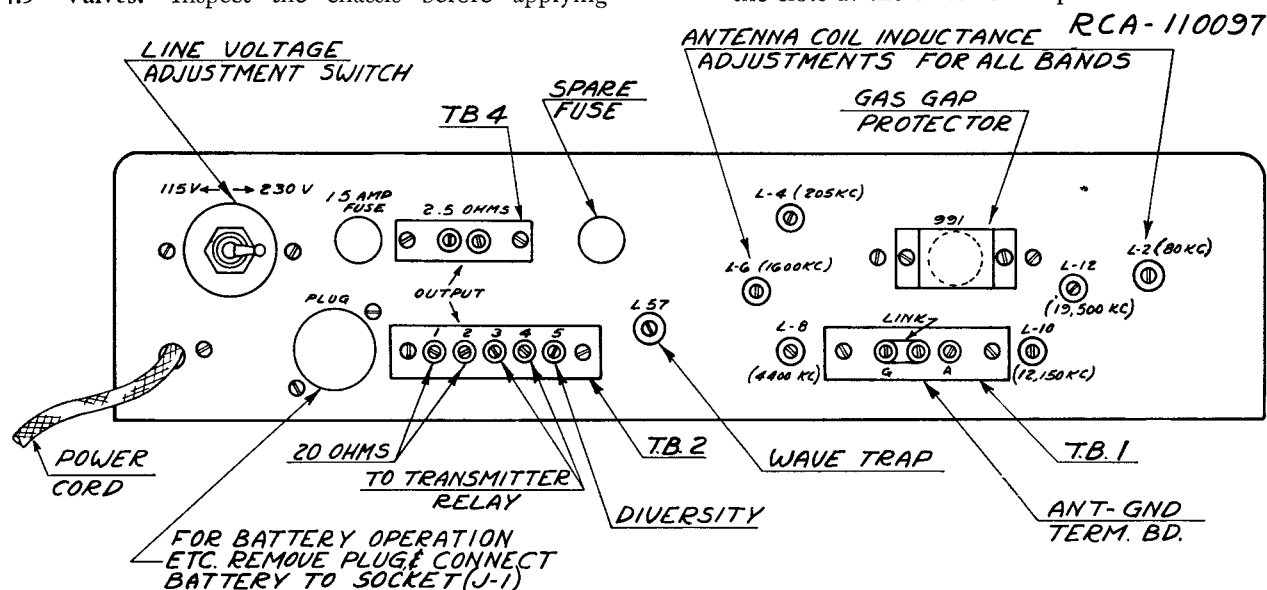

Figure 3.—General Purpose Communications Receiver—Rear Apron
- 2.2 **Input Coupling:—**The antenna coupling system is designed to provide optimum coupling from a 200 ohm transmission line, but equivalent performance is realized with a straight line antenna (see Section 4.4) with a conventional lead-in wire. The first tuned circuit is provided with a trimmer condenser adjustable from the front panel. This insures the proper tuning of this circuit with any antenna system. For all bands, conventional antenna and ground connections may also be used. The antenna terminal board is provided with three terminals (see Figures 3 and 7), two of which may be joined together with a link. When a single wire antenna is used, the link should be closed and the antenna connected to "A". If a ground is used, it should be connected to "G".
4.5 **Speaker**—Terminals for connection of a loudspeaker are indicated in Figures 3 and 7. The output transformer is designed to match a p.m. dynamic speaker having 2.5 ohms impedance.
2. Transmit position which gives energized tube filaments, open plate circuits, and shorted terminals (for transmitter relay) on the speaker terminal board on the back of the chassis. (3. & 4. on T.B.-2.). Connect relay to these two terminals for transmitter operation. (See Figure 3.)
Refer to Figure 3: Connect together the terminals, marked "Diversity" of the receivers, and equip each receiver with a separate antenna. Tune each receiver to the same station as explained in Section 5.12 above.